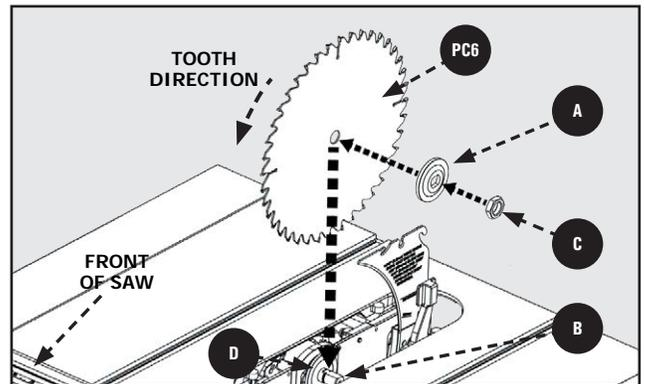

Figure 15
6. Place Blade **PC6** on the Arbor Shaft with the Teeth on the Blade pointing toward the front of the Saw. Place Outer Blade Washer **A** on Arbor Shaft **B** with the large side of the Washer against the Blade, then secure Blade Assembly with Nut **C**. See Figure 15.